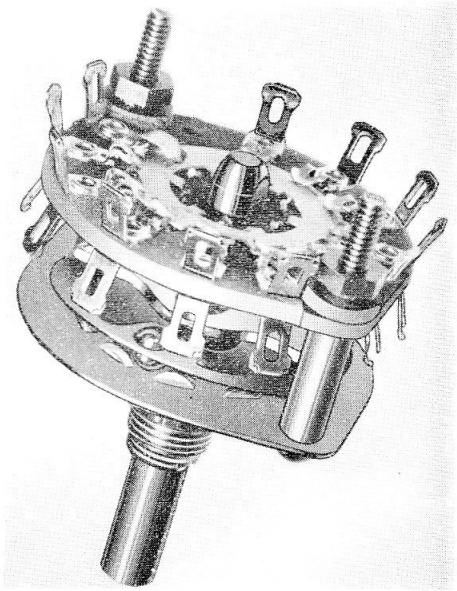

Fig. 2. Switch mechanism
1. The switch, Type 34580/H1 (fig. 2), has ten positions each of 30 deg. throw. The index mechanism has double ball-bearing location, with a full circle pressure spring of best quality blued spring steel.